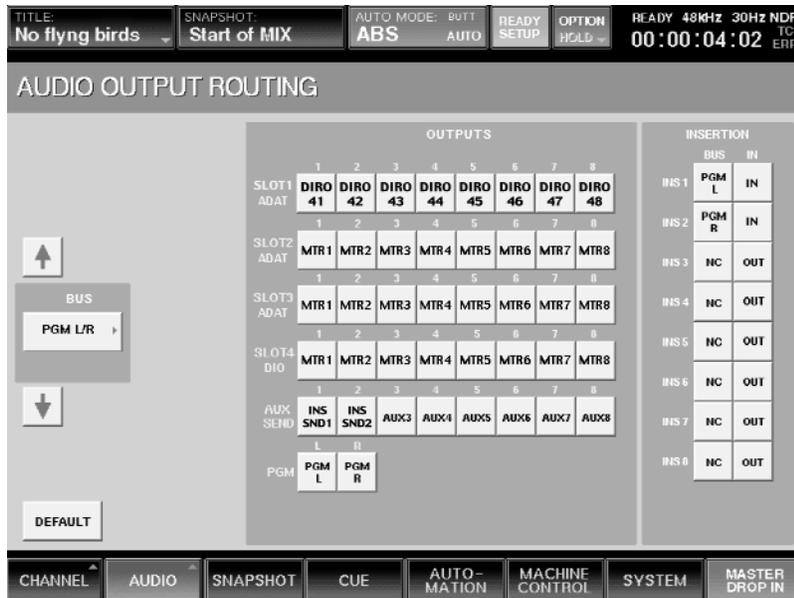

Figure 29
- Now press 2 in the INS SEND 1-8 Bus drop-down menu, and press AUX SEND 2 in the Outputs section. INS SND2 will be selected for Aux Send 2. (See Figure 29)